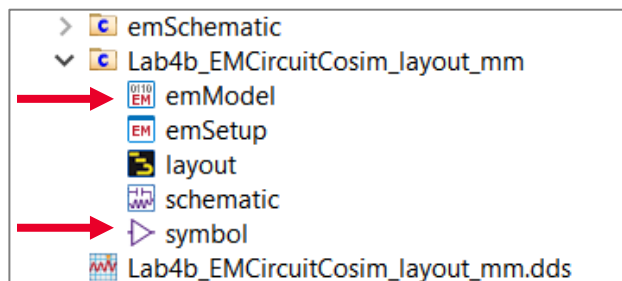

Figure 40. emModel and symbol shown in main window
2. Observe the ADS main window and we will notice 'emModel' and 'symbol' now appearing under the cell on which the simulation is being performed...we will use 'emModel' for EM/Circuit co-simulation. This is shown in Figure 40.